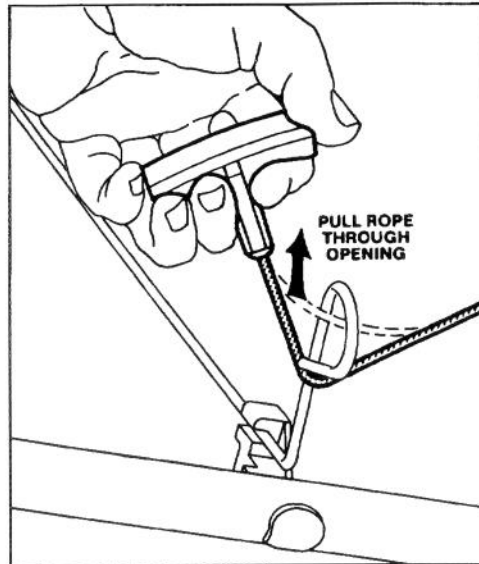

Figure 3
4. Pull starter rope through loop opening on handle (Fig. 3). By squeezing control bar on handle, blade brake will release and allow rope to be pulled up easily to loop.